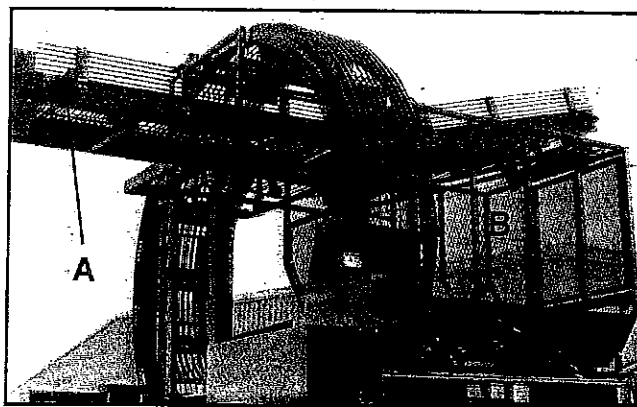

FIGURE 11 - BASIC CONTROLS
Beets are diverted to the tank or truck by a hydraulic motor (A). The tank is unloaded by use of hydraulic motor (B) (see Figure 11) on the tank unloading chain.